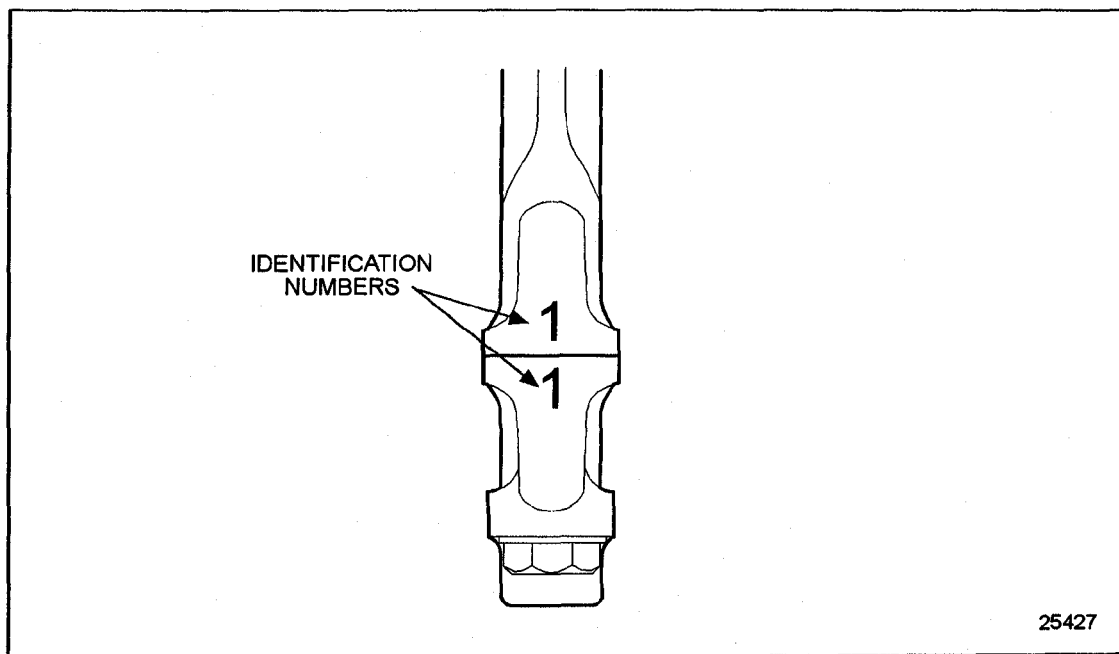

Figure 1-270 Connecting Rod and Cap Identification
22. Install the bearing cap. The number on the cap and rod should be on the same (oil cooler) side. See Figure 1-270.